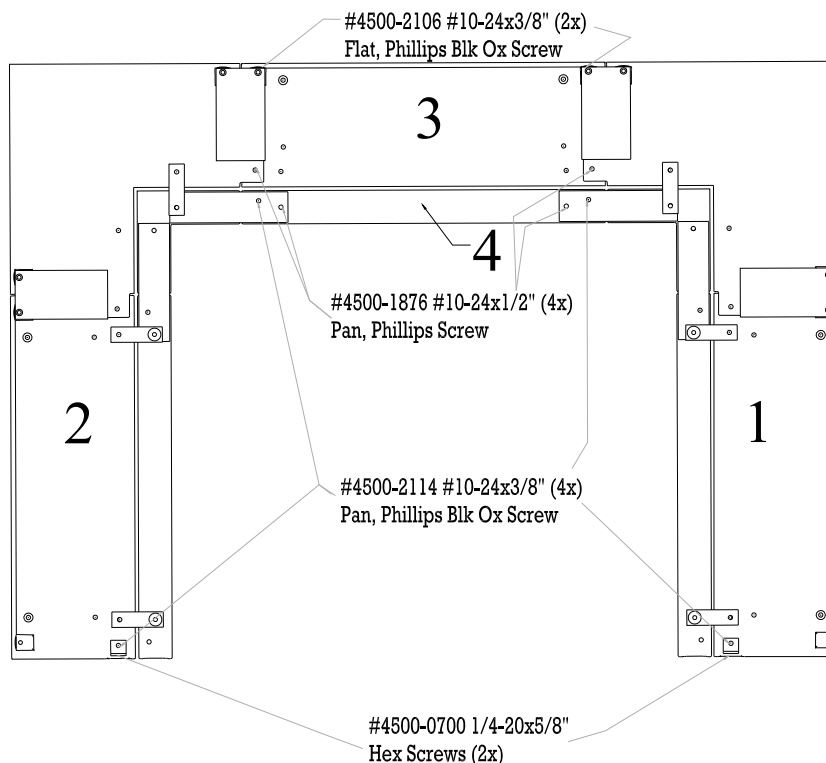

Figure 4 Morgan Surround Assembly
USE FIGURE 4 AS A REFERENCE, WHEN ASSEMBLING THE SURROUND
1. Position the *Center Top Inner and Outer Sections* (3+4) of the surround into position as illustrated in Figure 4. Secure them to the top panel using the fasteners provide in the zip lock bag – proper placement of the screws is called out in Figure 4
2. Repeat steps 1-4 with the *Left section* (2)